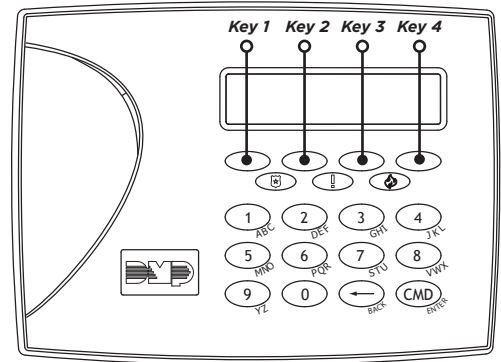

Figure 5: Select Keys and the Number Pad
3. Identify the **Select Key or Area** for the character and press that select key or area on the keypad. Press the select key or area again to display a lowercase letter. See Figure 5.